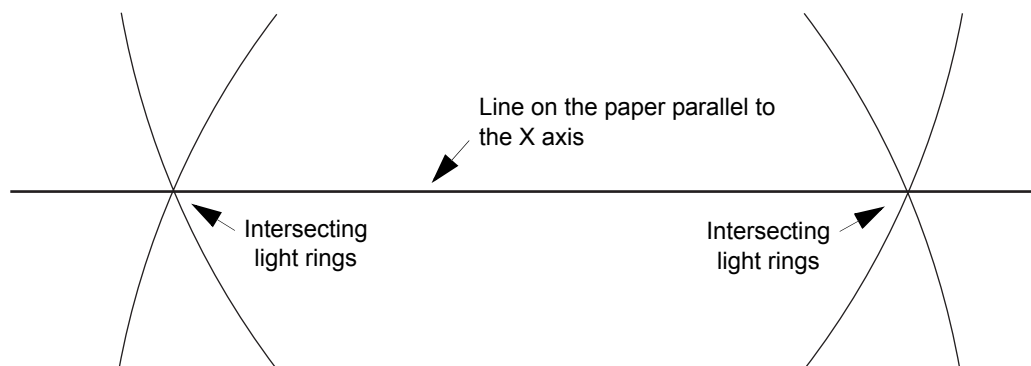

Figure 8-26 PRL Light Projection on Paper
11. The light projection resulting from only the left and right quadrants being enabled will cause a shadow in the shape of the intersecting lines (light rings) shown in Figure 8-26.